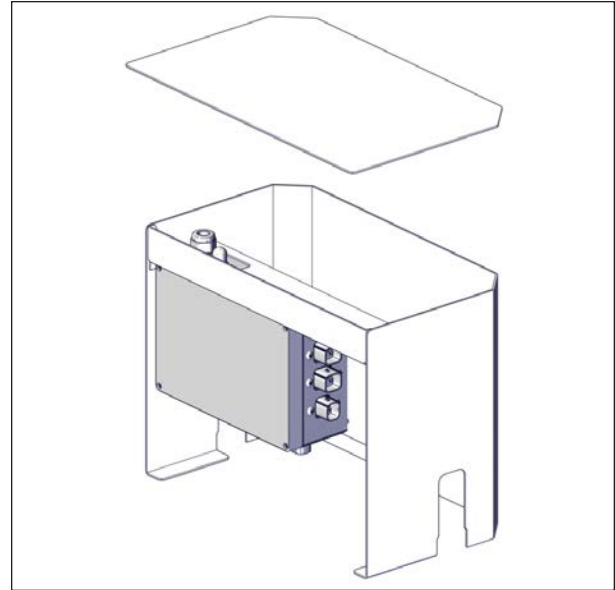
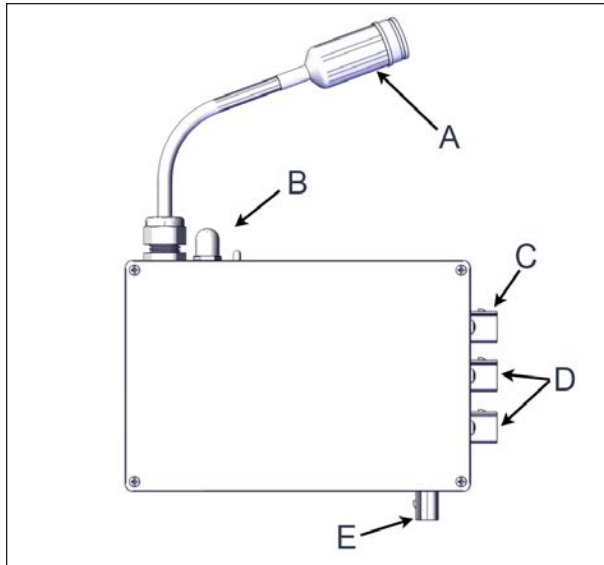

FIGURE 94: CONTROL BOX HOUSING
FIGURE 95: BATTERY/SOLAR PANEL CONTROL BOX
1. Locate the control box housing and control box, see Figure 94 and Figure 95.
3. Unpack the key switch and plug the harness into the control box (item C, Figure 95).
4. Unpack the optional solar panel kit from the boxes and connect the solar panel harness (item E, Figure 95).